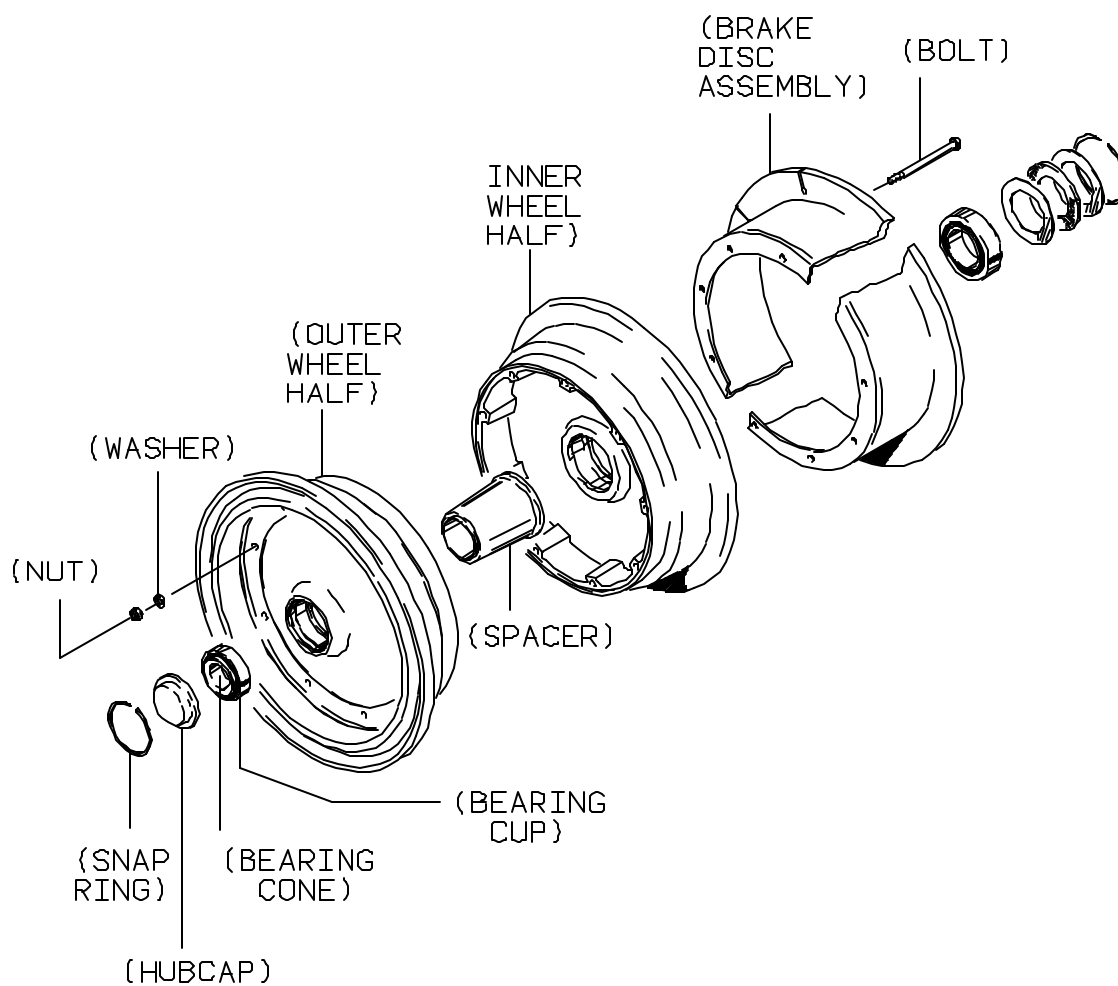

Figure 1
3. Remove the 155-00600 snap ring, 158-00800 hubcap, MS24665-357 cotter pin, MS21258C15 tab washer, CM2910-15 axle nut and 214-01000 bearing cone from the outer (small bore) wheel half assembly. (See Figure 1.)
5. If the cup is found loose, replace the outer wheel half assembly with an assembly of corresponding part number (162-01700) and the spacer between the wheel halves with a new configuration (067-00600) spacer. (See Figure 1.) New configuration spacers are painted white for identification purposes. Proceed to step "7".